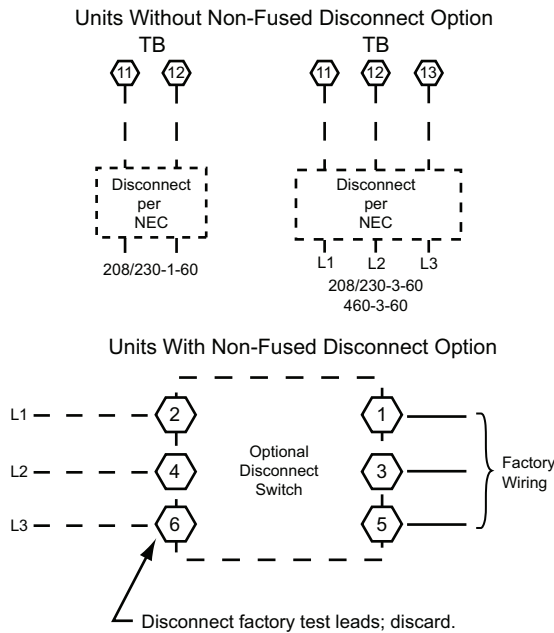

Fig. 17 — Power Wiring Connections
Refer to Fig. 17 for power transformer connections and the discussion on connecting the convenience outlet on page 15.
The factory-installed option non-fused disconnect (NFD) switch is located in a weatherproof enclosure located under the main control box. The manual switch handle and shaft are shipped in the disconnect enclosure. Assemble the shaft and handle to the switch at this point. Discard the factory test leads (see Fig. 17).
All field wiring must comply with NEC and all local codes. Size wire based on MCA (Minimum Circuit Amps) on the unit informative plate. See Fig. 17 and the unit label diagram for power wiring connections to the unit power terminal blocks and equipment ground. Maximum wire size is #2 ga AWG per pole.
2. Install power lines to terminal connections as shown in Fig 17.